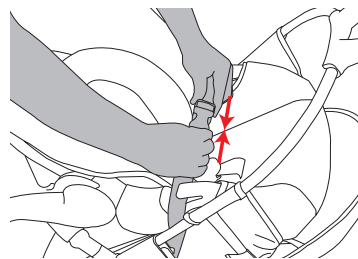

Figure 32
- Thread the straps through the guides on the sides of the infant carrier and buckle them in place over the LOWEST part of the carrier. Adjust the straps so they are TIGHT around the carrier but AWAY from the child’s neck. Gently pull up on the carrier to be sure it is held on securely. See Figure 32.